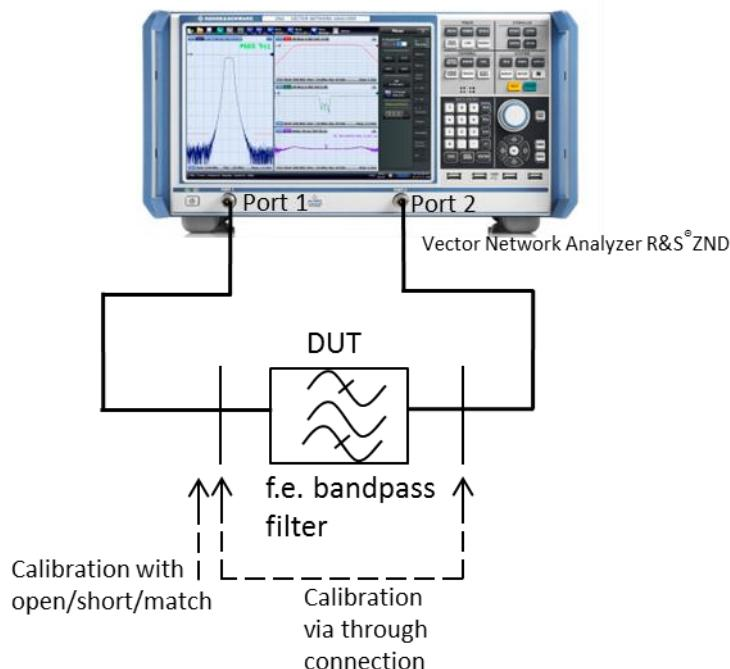

Fig. 2-18: Measurement of the filter characteristics using the ZND vector network analyzer.
As shown in Fig. 2-18 the test setup is calibrated before the measurement. For a vectorial measurement, the test cables must be through-connected, followed by three additional calibration steps. A short circuit, an open circuit and a high-precision $50\ \Omega$ resistor are used as calibration standards. It must be ensured that the correct calibration standard is connected to the cable end. The RF characteristics (essentially the reflection) of each standard are known, making it possible to calculate the associated correction values. Unlike with scalar measurements using the spectrum analyzer, the length of the through connection must be known because this will affect the phase measurement.
- Connect the filter between the two test cables as shown in Fig. 2-18.